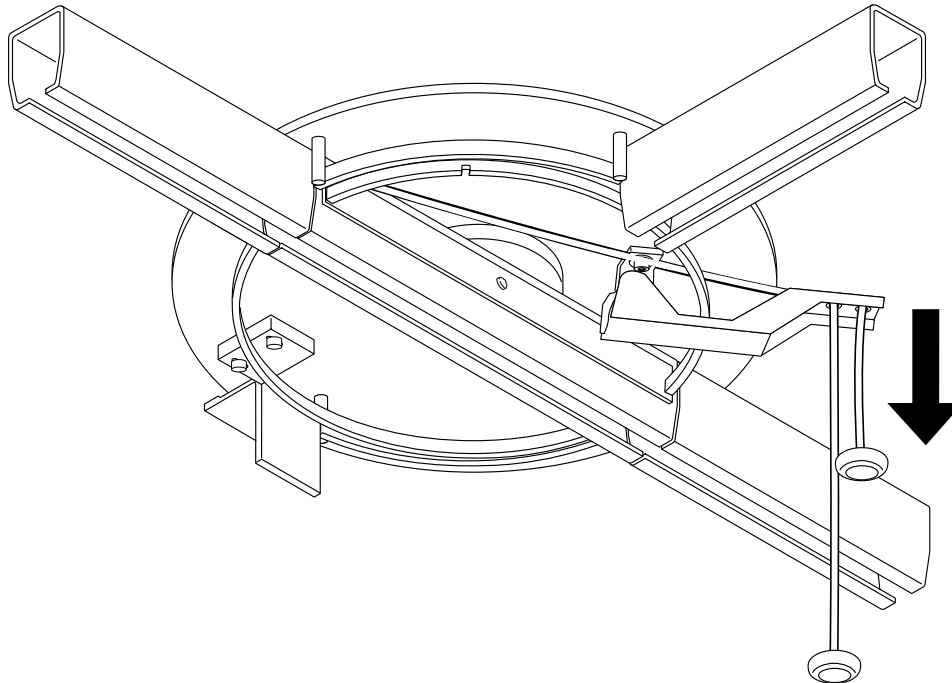

Fig 1
- Pull the appropriate cord (this will be the shorter of the two at this time) all the way down until it stops, as Fig 1.